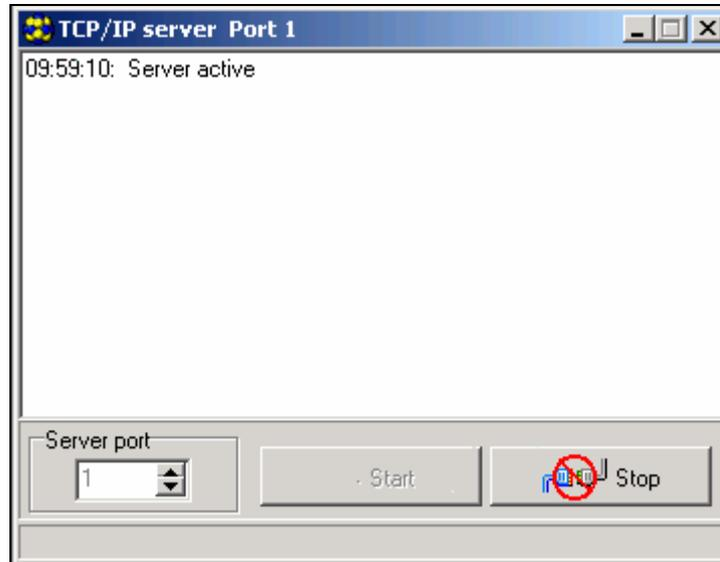

Fig. 13. "TCP/IP" window.
2. Select the "TCP/IP" in the "Communication" menu. A window will open in which information on server activation will be displayed (see: Fig. 13).